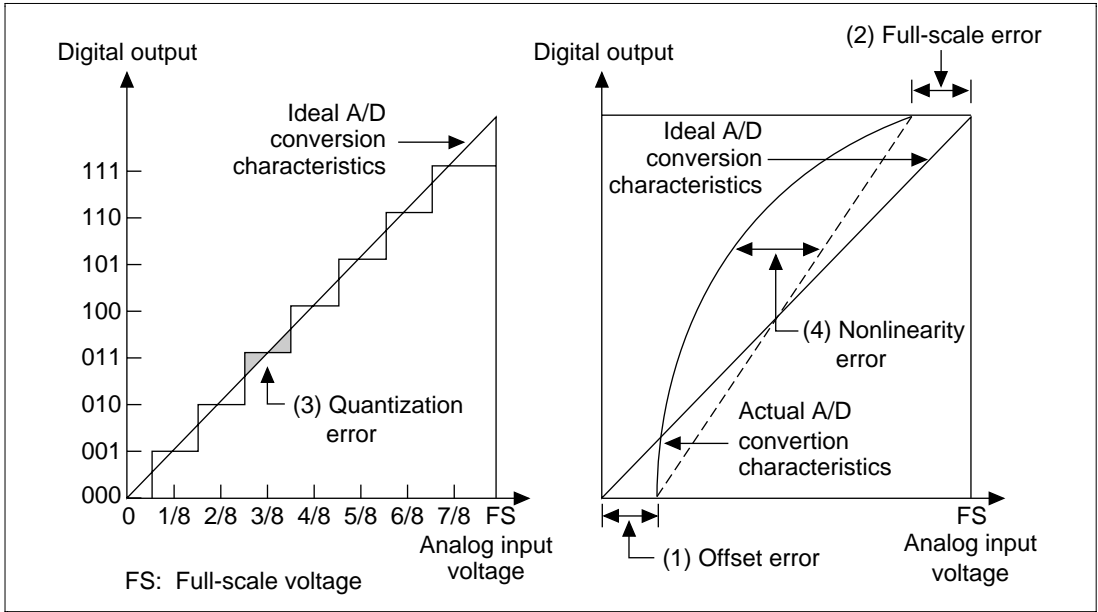

Figure 23.8 Definitions of A/D Conversion Accuracy
These four error quantities are explained below using figure 23.8. In the figure, the 10 bits of the A/D converter have been simplified to 3 bits.
Offset error is the deviation between actual and ideal A/D conversion characteristics when the digital output value changes from the minimum (zero voltage) 000000000 (000 in the figure) to 000000001 (001 in the figure)(figure 23.8, item (1)). Full-scale error is the deviation between actual and ideal A/D conversion characteristics when the digital output value changes from the 111111110 (110 in the figure) to the maximum 111111111 (111 in the figure)(figure 23.8, item (2)). Quantization error is the intrinsic error of the A/D converter and is expressed as 1/2 LSB (figure 23.8, item (3)). Nonlinearity error is the deviation between actual and ideal A/D conversion characteristics between zero voltage and full-scale voltage (figure 23.8, item (4)). Note that it does not include offset, full-scale or quantization error.